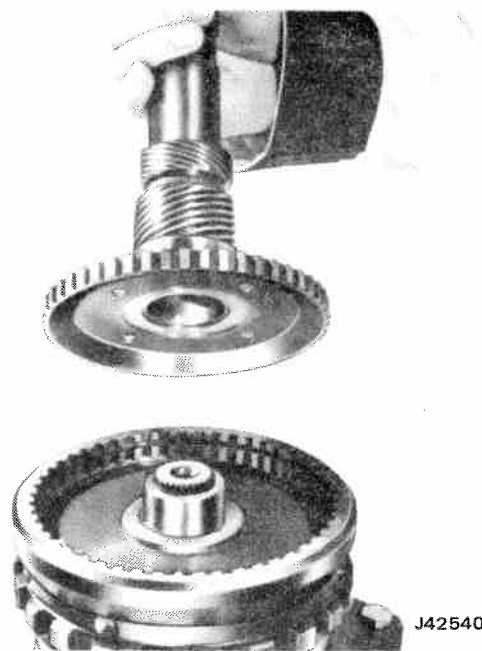

Fig. 7-110 Installing Output Shaft Into Output Carrier Assembly
(8) Install output shaft into output carrier assembly as shown in fig. 7-110, then secure shaft to carrier with snap ring, as indicated in fig. 7-107.
(9) Reposition and support components thus far assembled so that output shaft extends downward.
(10) Install reaction carrier-to-output carrier thrust washer on output carrier, with tabs of washer faced downward into corresponding pockets of carrier and retain with petroleum jelly.
(11) Insert sun gear into output carrier, splines with chamfer downward, so that it meshes with planet gears.
(12) Insert rear spline of (long spline) sun gear shaft into spline of sun gear.